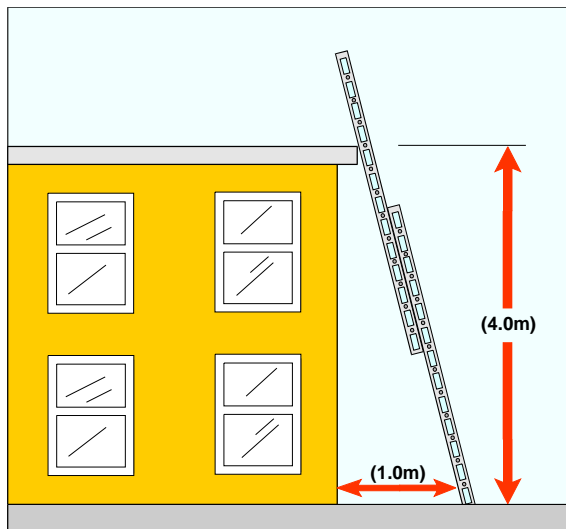

Fig 12.2 Correct Ladder Positioning
- set the ladder at its safe working angle, by taking the heel of the ladder away from the wall a distance of 25% of the vertical height of the extended ladder (see Fig 12.2);